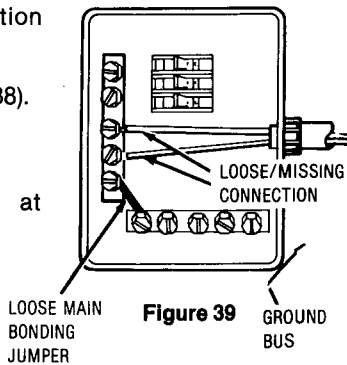

Figure 39
- Loose neutral connection at the branch or main panel or at a junction box (Fig. 39).